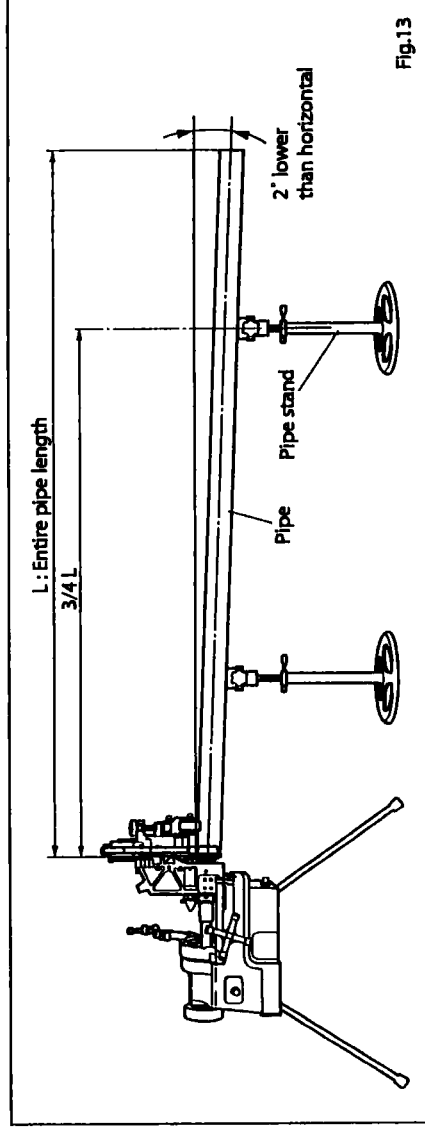

Fig.13
- If you use pipes longer than those shown in Table 4 above, use 2 stands to support the pipe. (Fig. 13)
- Since the pipe threading machine is approx. 2° off horizontal, adjust the pipe stand height so that the pipe is 2 degrees lower. (Fig. 13)